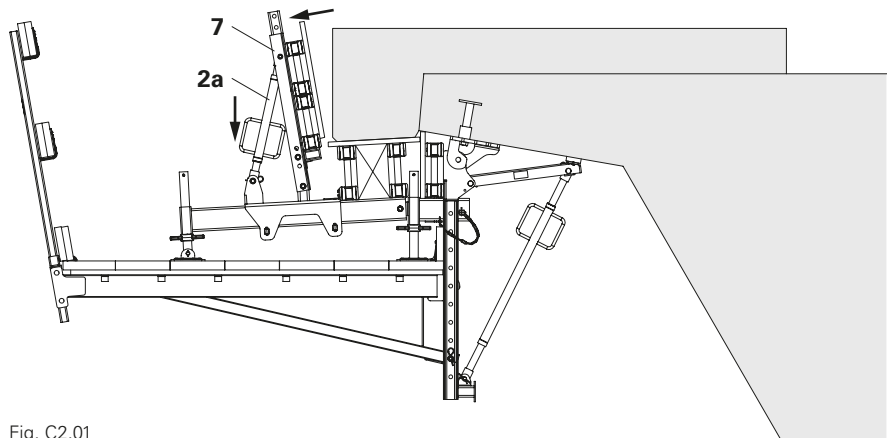

Fig. C2.01
1. Turn back Formwork Post VGK 70 (7) with Kicker AV 82 (2a) until side plate comes off the cantilevered parapet.
2. Remove the side formwork. (Fig. C2.01)